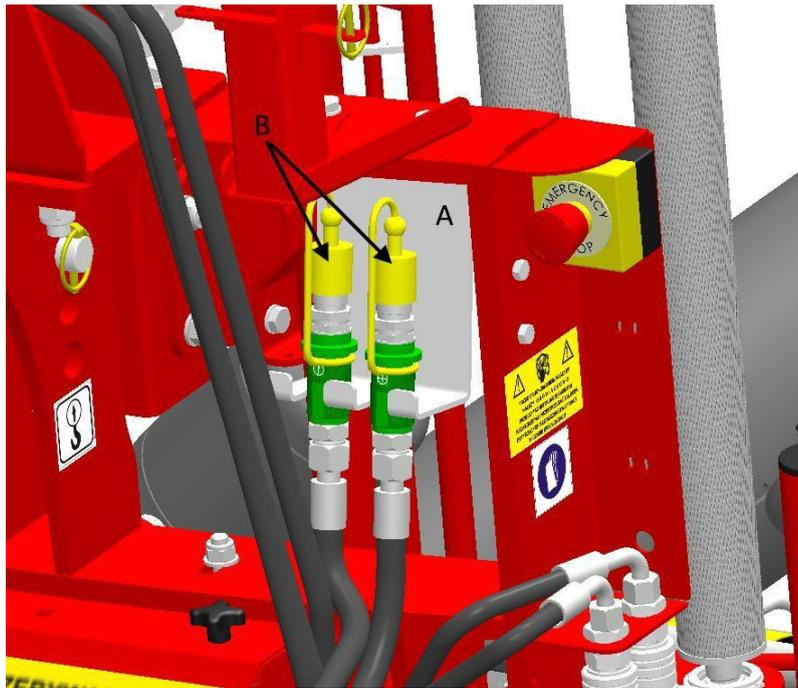

Figure 11. Hydraulic conductor clamp:
- Release and disconnect the power hydraulic system, secure the hydraulic lines in their holders on the main frame of the wrapper (fig. 11-A). Disconnect the (+) plug first and then the (-) plug.
Hydraulic connections must be always kept clean. After use reinstall plastic covers supplied when purchasing the machine (Fig. 11-B).